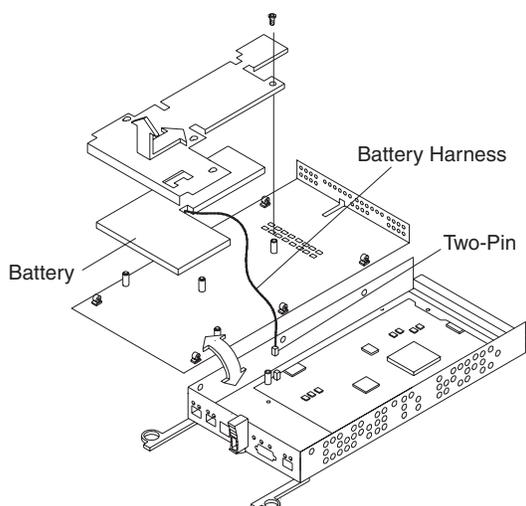

Figure 65. Removing the controller battery
8. Carefully flip over the RAID controller bottom panel. Disconnect the battery harness on the battery from the two-pin connector on the controller board, as shown in Figure 65.
11. Carefully flip over the RAID controller bottom panel. Disconnect the battery harness on the battery from the two-pin connector on the controller board as shown in Figure 65 on page 77.